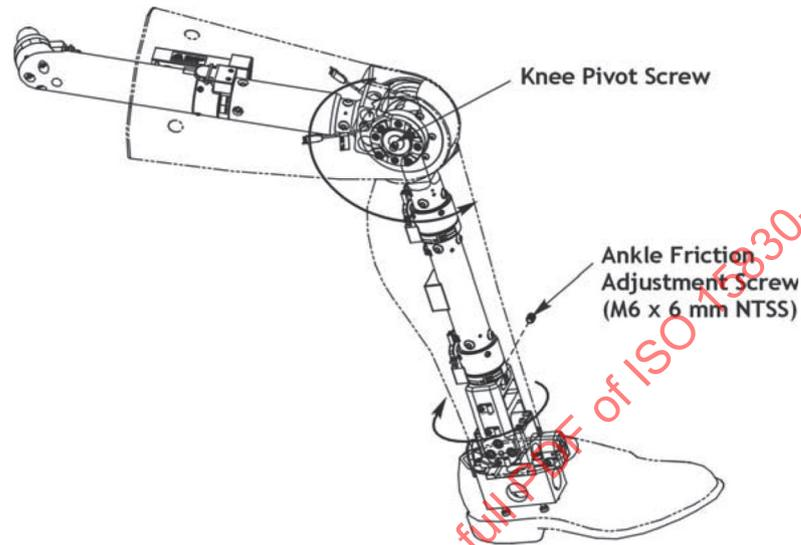

Figure A.85 — Knee assembly
- The knee pivot screw (see Figure A.85) controls the motion of the lower leg. In order to do this, there are several components involved: clamping, compression and friction washers, and the pivot shaft assembly. For the knee pivot screw to control the friction in the knee joint, all of these components shall be correctly installed and in good working condition. Tighten the knee pivot screw to obtain a 1-to-2-G-setting. This screw will squeeze the compression washer against the friction washer, thus increasing the resistance to movement of the knee bone in the knee clevis.